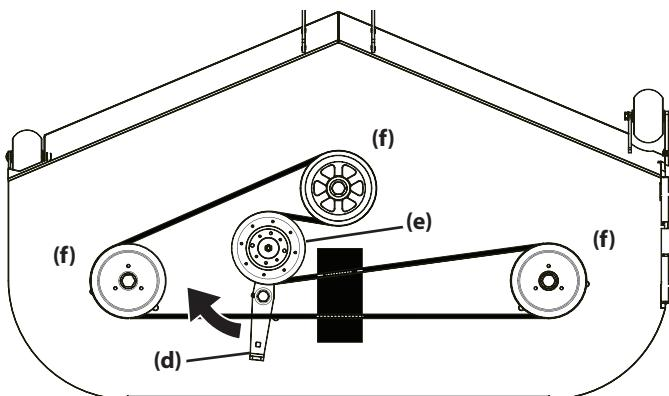

Figure 37
- Using a 1/2" (12.7 mm) drive insert the end into the 1/2" (12.7 mm) square opening in the deck idler assembly (d) and rotate the deck idler assembly clockwise. See Figure 37.
- Route the new belt around the idler pulley and the spindle pulleys as shown in Figure 37.